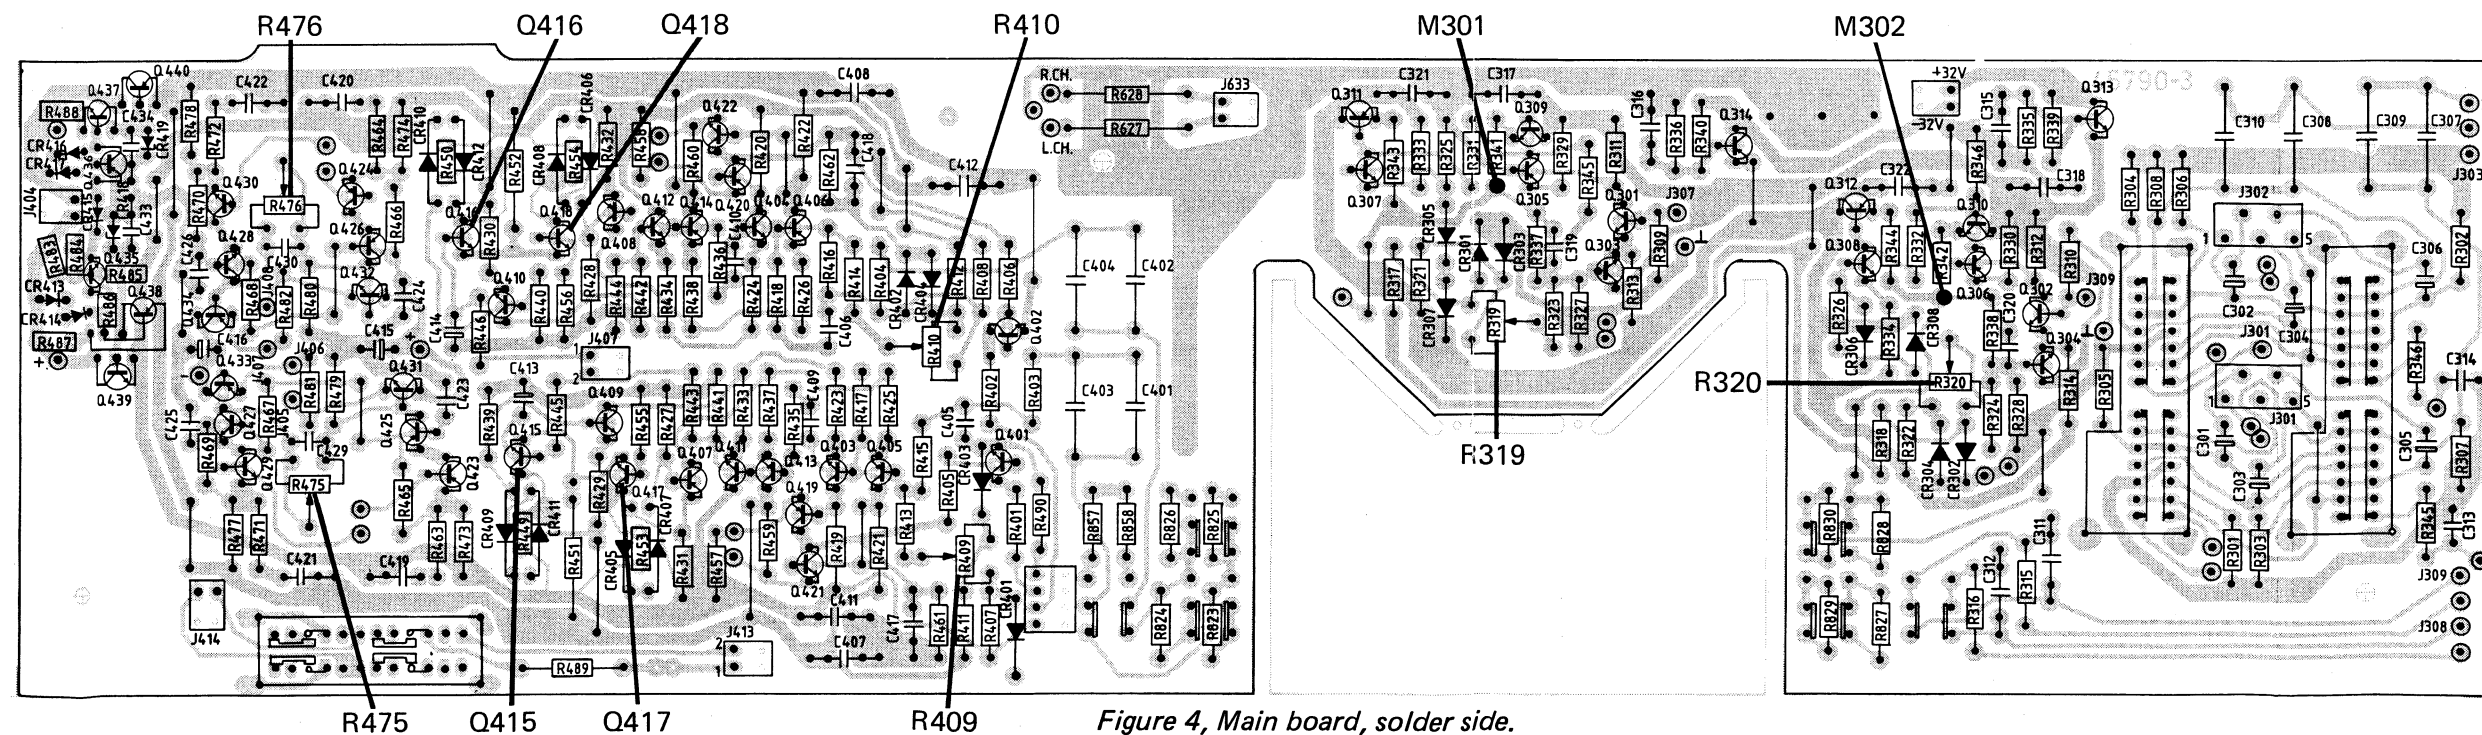

Figure 4, Main board, solder side.
- Solder two LED's (light emitting diodes) with opposite polarity together in parallel and connect them to the collectors on Q415/Q417 (left) and Q416/ Q418 (right), see figure 4.
- Connect the d.c. meter to M301 (left) and M302 (right), see figure 4.